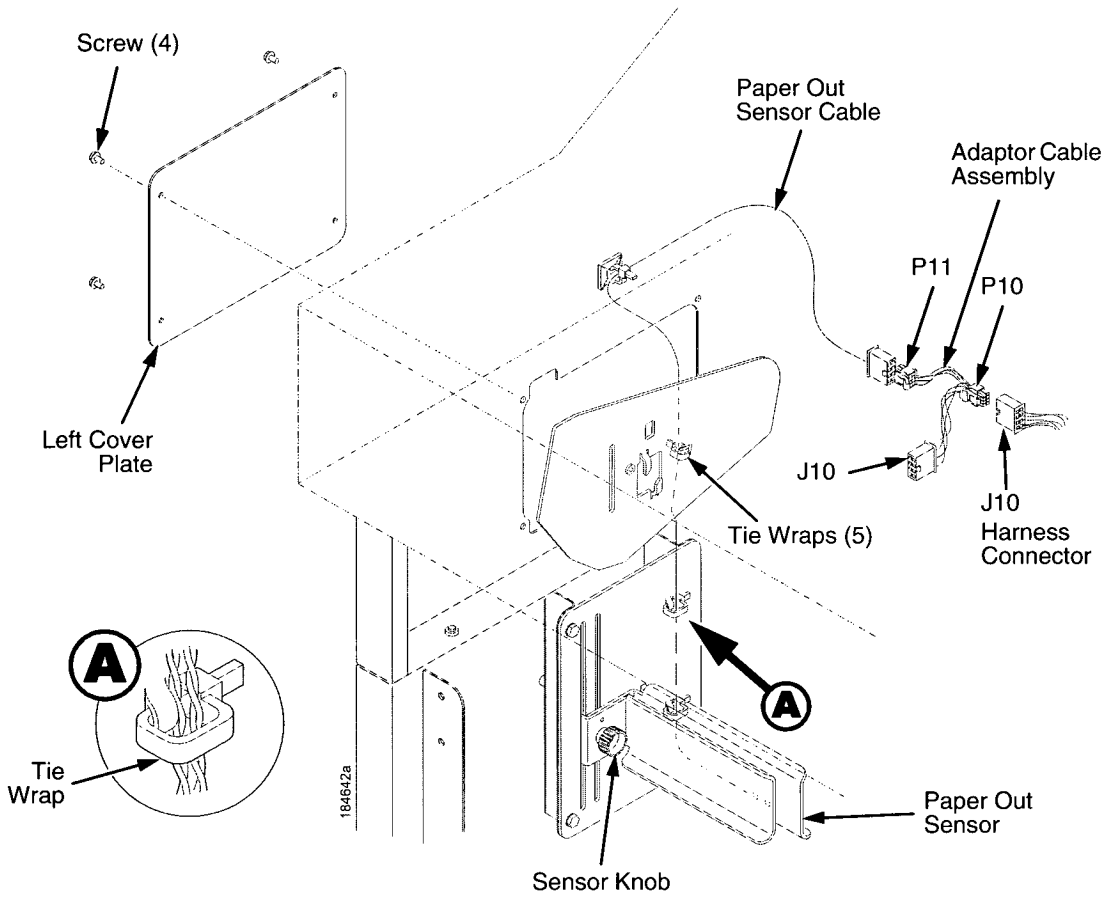

Figure 121. Replacing the Paper Out Sensor Assembly
2. Remove the screw and left cover plate. (See Figure 121.)
(See Figure 121 on page 448.)
**NOTE:** Be sure that the tie wrap loops around the cable, towards the back of the printer as shown in Figure 121, detail B on page 448.